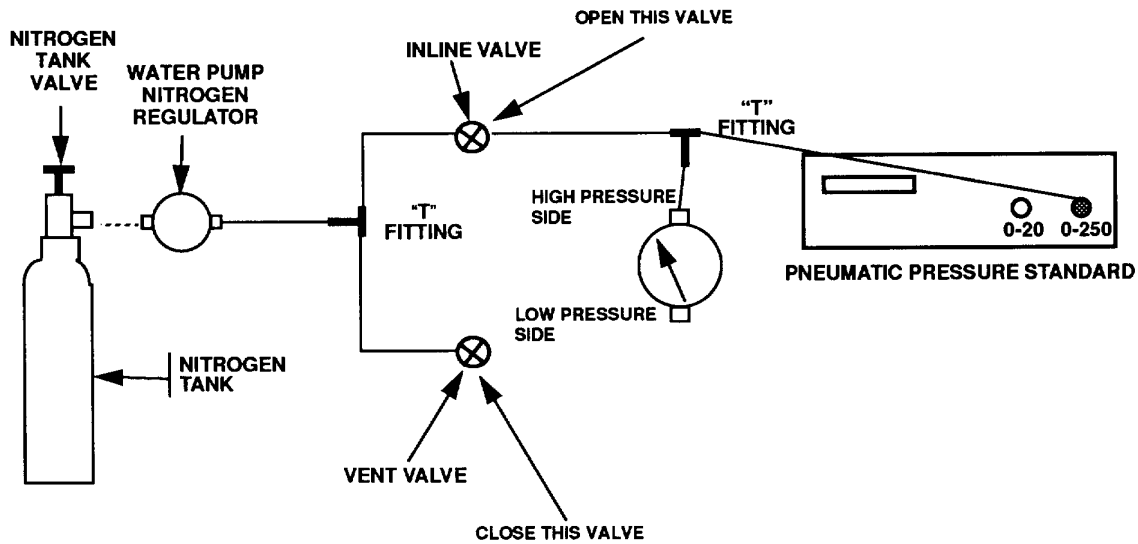

Figure 3. High pressure check - equipment setup.
(1) Connect equipment as shown in figure 3.
(2) Connect TI to the system, only connect the HIGH PRESSURE SIDE (fig. 3) of the TI and leave the LOW PRESSURE SIDE (fig. 3) open to the atmosphere.
(3) Open the INLINE VALVE (fig. 3) going to the HIGH PRESSURE SIDE (fig. 3) and close the VENT VALVE (fig. 3).
(4) Adjust WATER PUMP NITROGEN REGULATOR (fig. 3) fully ccw.
(5) Open NITROGEN TANK VALVE (fig. 3) and adjust WATER PUMP NITROGEN REGULATOR (fig. 3) to pressurize the system to 75 PERCENT OF FULL SCALE, then carefully adjust WATER PUMP NITROGEN REGULATOR (fig. 3) for FULL SCALE indication on the TI.
(6) Close the INLINE VALVE (fig. 3) going to the HIGH PRESSURE SIDE (fig. 3) of the TI and monitor the TI for leaks.
(7) If the TI appears to lose pressure, check all fittings for leaks. If no leaks are detected, the TI has a leak and should be replaced.
(8) If TI maintains a FULL-SCALE indication, fill in the calibration data sheet.
- (1) Zero the TI at atmospheric pressure and connect PNEUMATIC PRESSURE STANDARD (fig. 3) to the HIGH PRESSURE SIDE (fig. 3) of the TI.
- (2) The LOW PRESSURE SIDE (fig.3) of the TI is vented to the atmosphere.
- (3) Adjust WATER PUMP NITROGEN REGULATOR (fig. 3) fully ccw.
- (4) Carefully open NITROGEN TANK VALVE (fig. 3).
- (5) Adjust WATER PUMP NITROGEN REGULATOR (fig. 3) to apply 25, 50, 75, 100, and 110 PERCENT OF FULL SCALE pressure to the high side of TI.